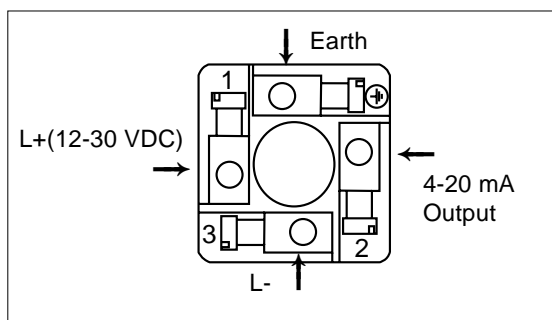

Fig. 3.4 Pin assignment
3. Connect the transmitter according to the pin assignment in Fig. 3.4